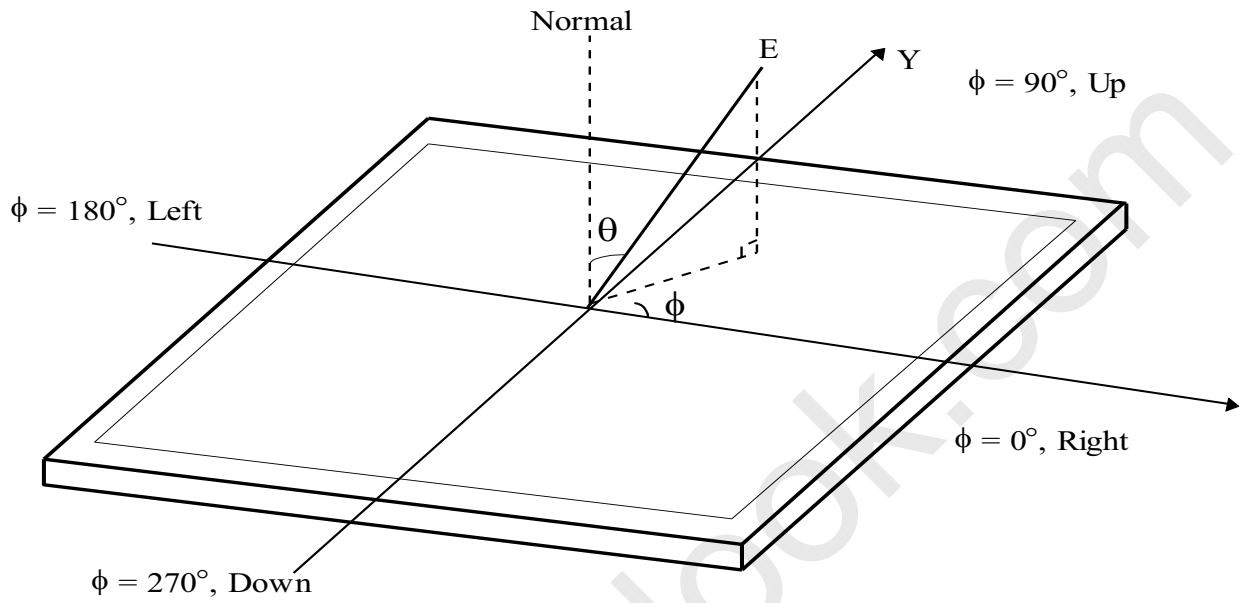

FIG. 11 Viewing angle
5. Viewing angle is the angle at which the contrast ratio is greater than 10. The angles are determined for the horizontal or x axis and the vertical or y axis with respect to the z axis which is normal to the LCD module surface. For more information, see the FIG. 11.